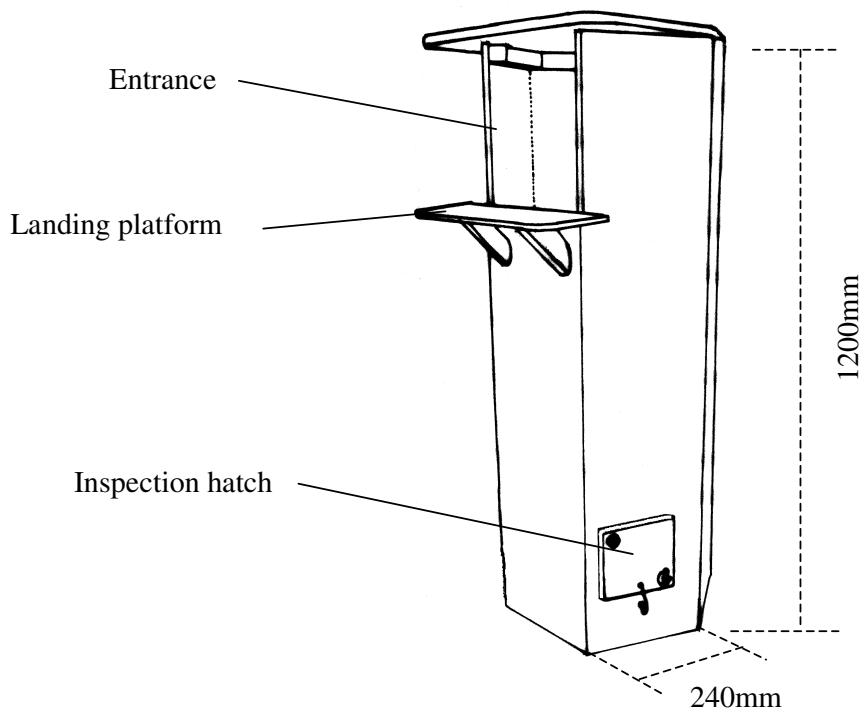

Fig. 2. Hexagonal owl nest box.
Step 4. Cut and fit landing pad (see Figs 2 & 3)